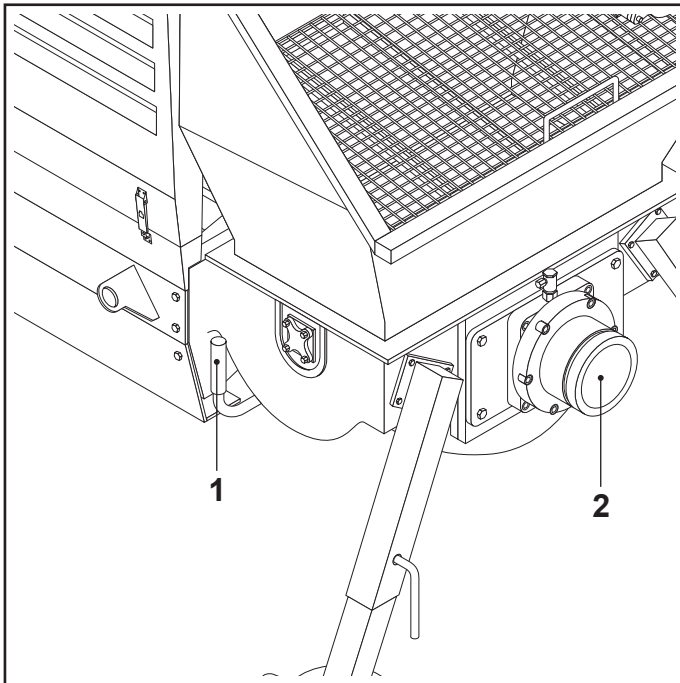

FIG. 37
- Open the hopper discharge chute (FIG. 37-REF. 1) to discharge the remaining slurry and then wash down the inside of the hopper with water.
- Introduce the water hose into the delivery conduit (FIG. 37-REF. 2) for about 15-20 centimetres, start pumping in reverse and draw the water out of the S-valve. Continue until you see only clear water coming out of the hopper.